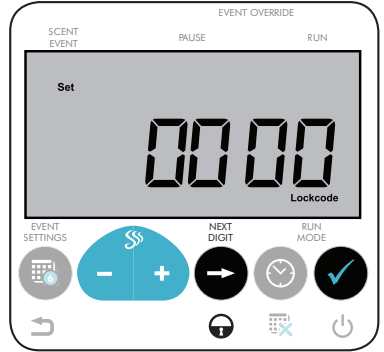

Fig. 16: The words Set and Lockcode will appear on the screen.
1. Press and hold the NEXT DIGIT button from the home screen for three (3) seconds. **(Fig. 16)**